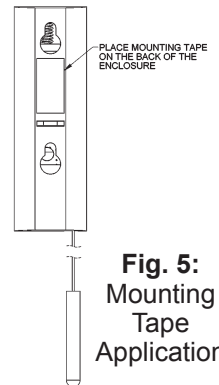

Fig. 5: Mounting Tape Application
2. Peel off one side of the mounting tape and apply the mounting tape to the back (Fig. 5).